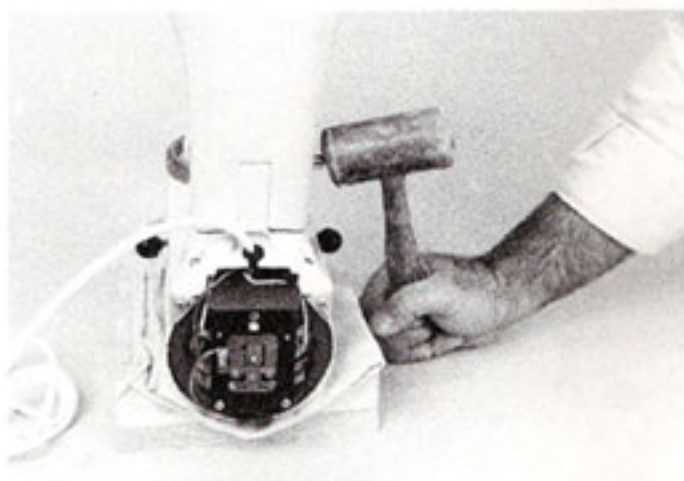

Fig. 75
- D. While in cradle, place the pedestal on the gear case and motor housing. Line up the holes for the hinge pin and drive it in so that an equal amount of the pin extends on each side of the pedestal (Fig. 75).